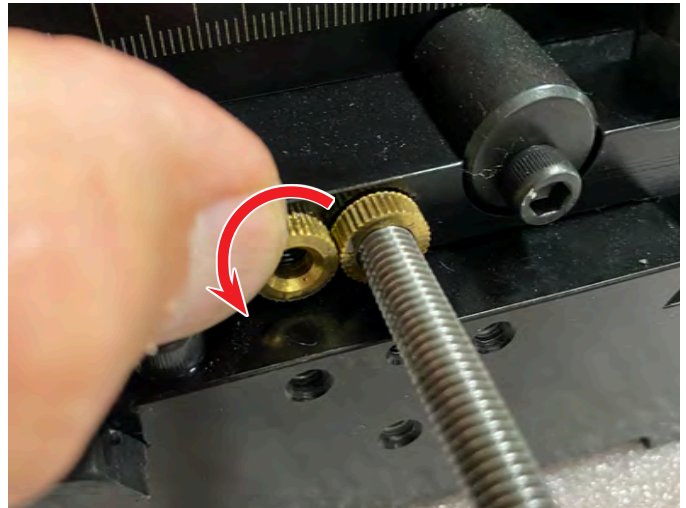

FIGURE 10—After you have aligned the knurls, roll the locking collar down until it aligns with the screw hole.
K. Place the anti-backlash locking collar next to the anti-backlash lock so the knurls align with each other. Then roll the locking collar down so the center hole aligns with the 8-32 tapped hole in the saddle (see Figure 10).